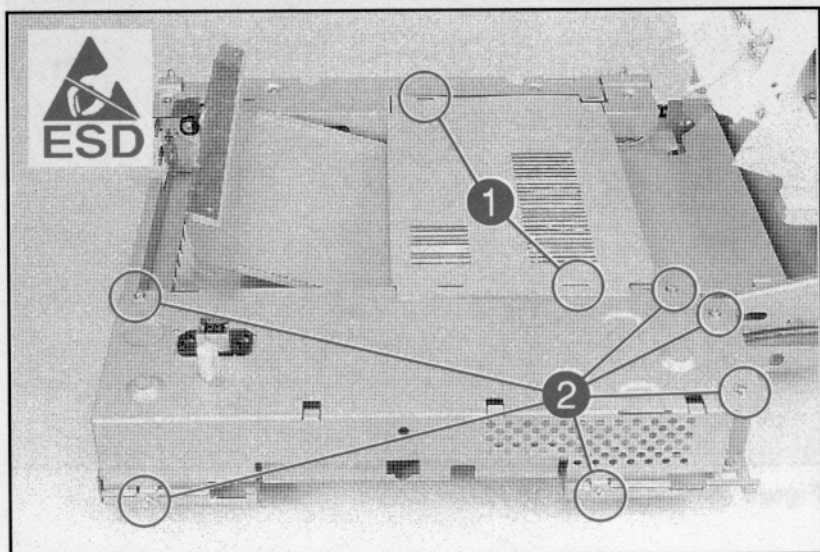

Figure A-16 **Cover Plate**
1 Remove the (2) screws shown in Figure A-16, callout 1.